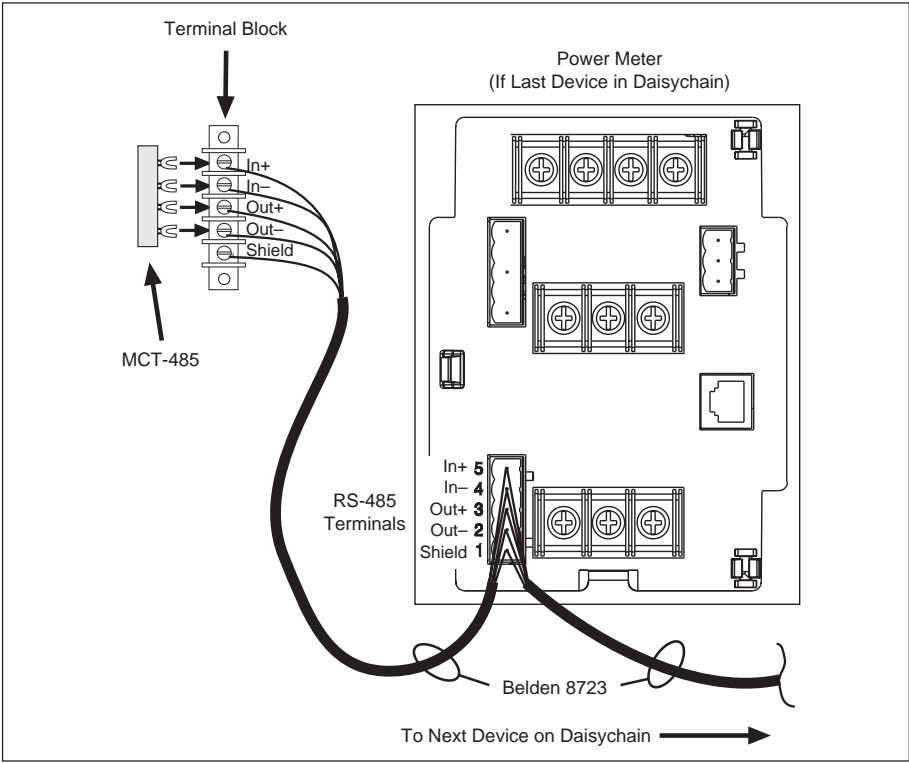

Figure 6-8: Terminating power meter with terminal block and MCT-485
- Connect the CAB-107 spade connectors to the 5-position terminal block. See figure 6-8, page 45, for terminal identification.
- Connect the cable end with attached spade connectors to the terminal block. See figure 6-8, page 45, for terminal identification. Tighten all terminal screws to 6-9 lb-in (0.68-1 N•m).
- Connect this end of the Belden 8723 (or equivalent) cable to the power meter RS-485 terminals; see figure 6-8, page 45, for communications terminal identification. Be sure to connect the terminal accepting the IN- wire on the CAB-107 to the IN- terminal on the power meter, the terminal accepting the IN+ wire on the CAB-107 to the IN+ terminal on the power meter, and so on. Tighten the RS-485 terminal screws to 5-7 lb-in (0.56-0.79 N•m).
- Terminal block and MCT-485. In this method, communications wires route from the last power meter on a daisychain to a 5-position terminal block. A terminator attaches to the terminal block. See figure 6-8.